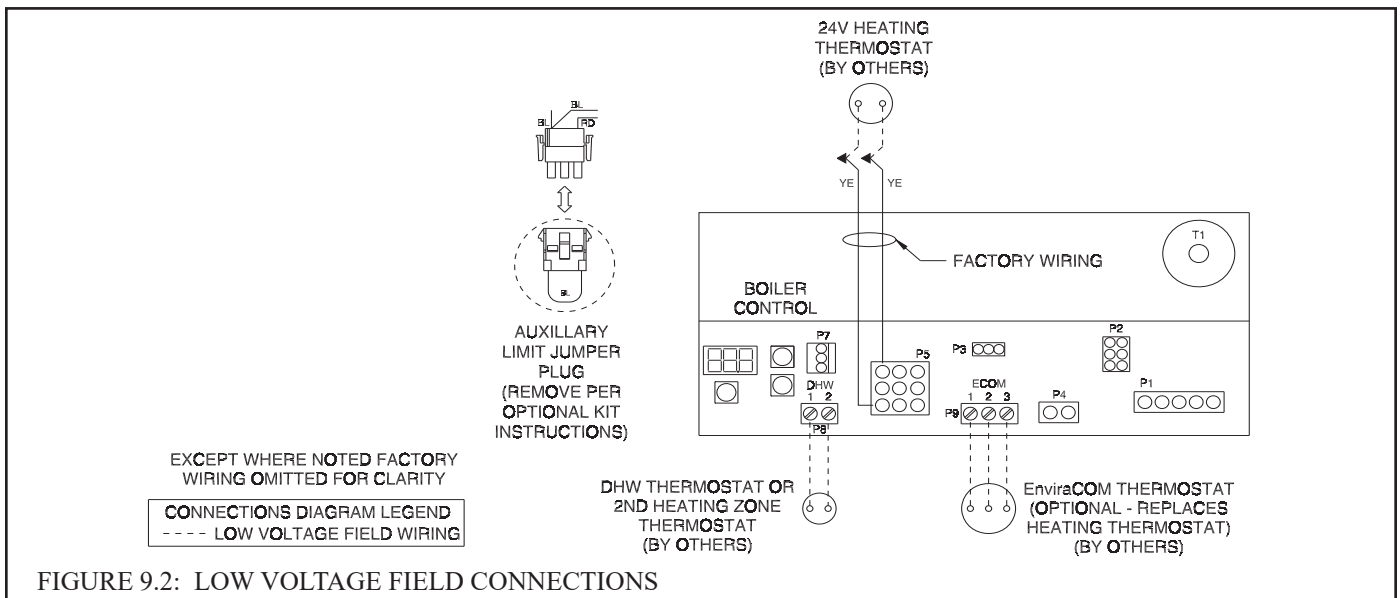

FIGURE 9.2: LOW VOLTAGE FIELD CONNECTIONS
- Wire additional field supplied safety limits, such as low water cut-offs and temperature limit devices, so as to break the 120V power supply to the boiler. Alternatively, some 24V safety limits can be wired in place of the limit jumper shown in Figure 9.2. Do not alter the boiler's factory wiring when adding a field supplied limit device.
**NOTICE:** This boiler is equipped with a listed high water temperature limit function. This limit provides boiler shutdown in the event the boiler water temperature exceeds the set point of the limit control. Certain Local Codes require an additional water temperature limit. If necessary, install an additional water temperature limit (P/N 106056-01) or equivalent Honeywell L4006 Aquastat. Wire as indicated in Figure 9.2.
- b) DHW Circulator - Pumps boiler water to an indirect water heater upon a call for domestic hot water (DHW) from the DHW thermostat terminals shown in Figure 9.2. This output can also be used for a second space heating zone. See Section XI of this manual for additional information.